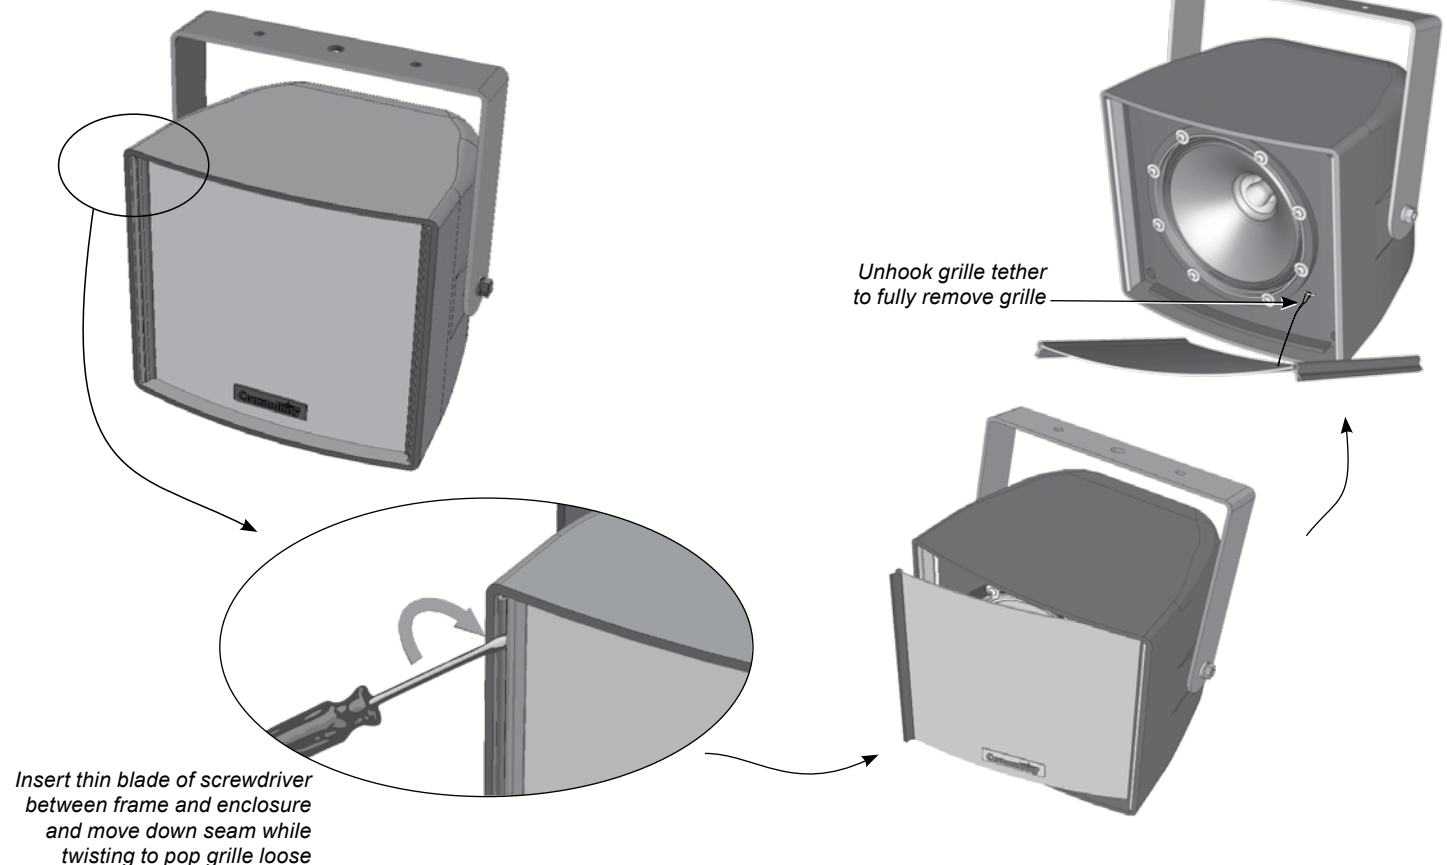

Figure 7. Remove grille (R.15 shown)
□ Remove the grille. Refer to illustrations in **Figure 7**. The grille frame locks into the enclosure frame. Carefully insert a thin flat bladed screwdriver between the grille frame and the enclosure frame while gently pressing down on the grille. Starting at the top and moving down, twist the blade to pop the grille frame free of the enclosure. There is a safety tether at the bottom of the grille that can be unhooked to fully remove the grille.